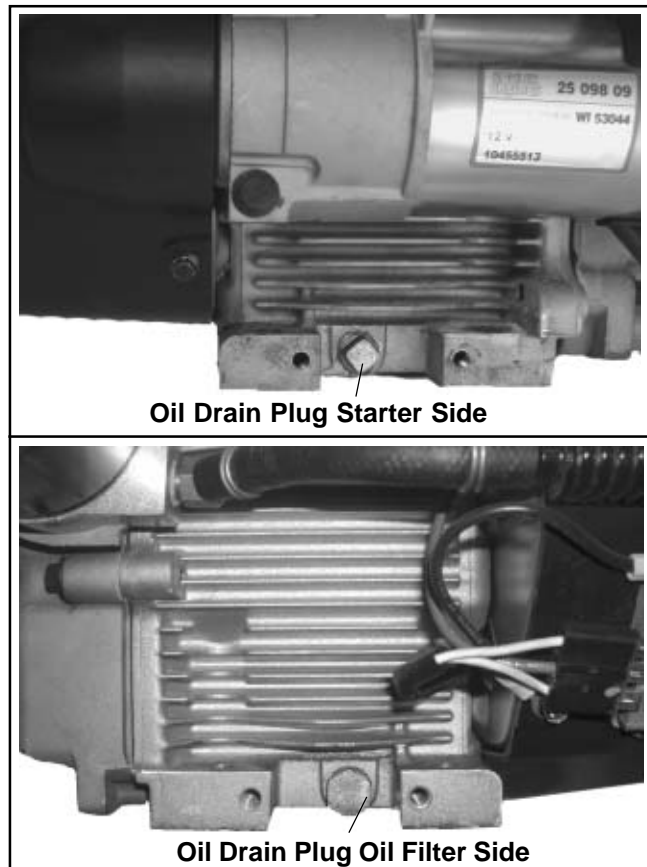

Figure 6-4. Location of Oil Drains.
2. Remove one of the oil drain plugs. A drain plug is located on either side of the crankcase; one is adjacent to and below the oil filter, the other is below the starter. See Figure 6-4.